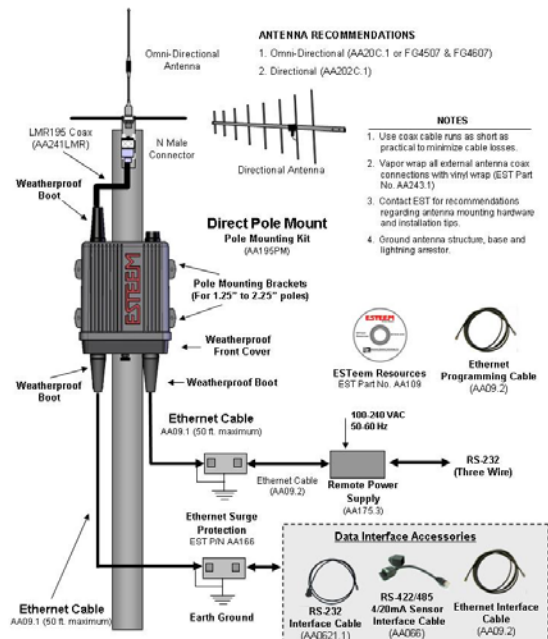

Figure 2 – Pole Mount Configuration
RS-232 – The ESTeem 195M/H/C has two (2) RS-232 data ports. One RS-232 port (Port 4) is available for use when the ESTeem 195M/H/C is remote pole mounted (Figure 2), but only supports the basic three wire (Transmit, Receive and Ground) connection